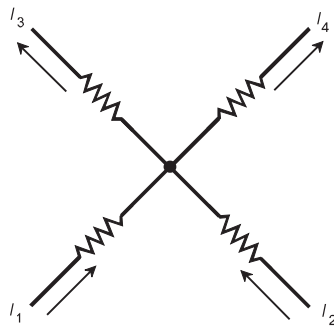

Fig. Test1-4. Illustration for Test Questions 36 and 37.
36. Which of the following equations is true pertaining to the circuit in Fig. Test1-4? The variables I_1 , I_2 , I_3 , and I_4 represent currents, all in amperes.
37. Suppose that in the circuit of Fig. Test1-4, all the resistors have values of $100\ \Omega$. Suppose $I_1 = 70\ \text{mA}$ and $I_2 = 100\ \text{mA}$. What is I_4 ?